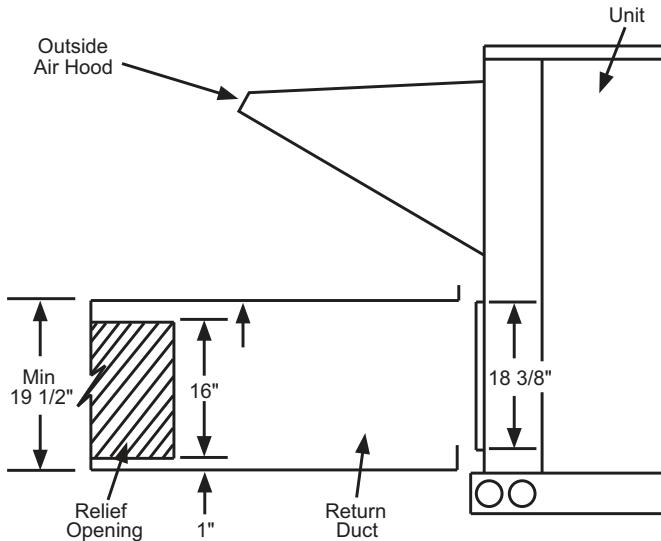

Fig. 34 – Relief Damper
1. Install the field provided horizontal ductwork onto the unit. Duct height must be at least 19-1/2 in. high, however the duct can be no taller than the top of the relief opening in the bottom panel, or airflow into the outside air hood will be restricted. See Fig. 34.
2. Cut a 16 in. x 36 in. opening in the return duct for the relief damper (see Fig. 34).